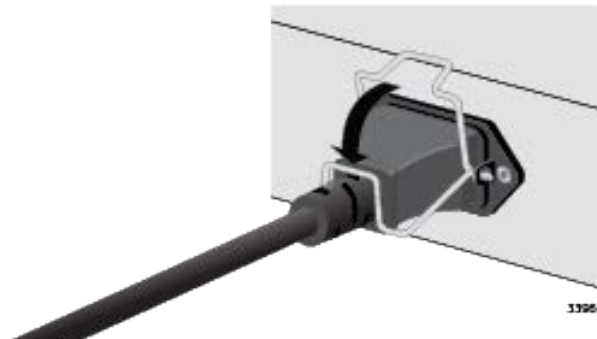

Figure 38. Lowering the Power Cord Retaining Clip
3. Lower the power cord retaining clip to secure the cord to the switch. Refer to Figure 38.